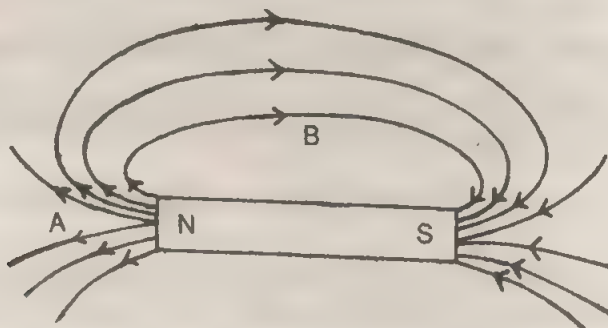

Fig. 7.26.
3. Is the field shown in Fig. 7.26 stronger at A or at B ? What do the lines and arrows show ?